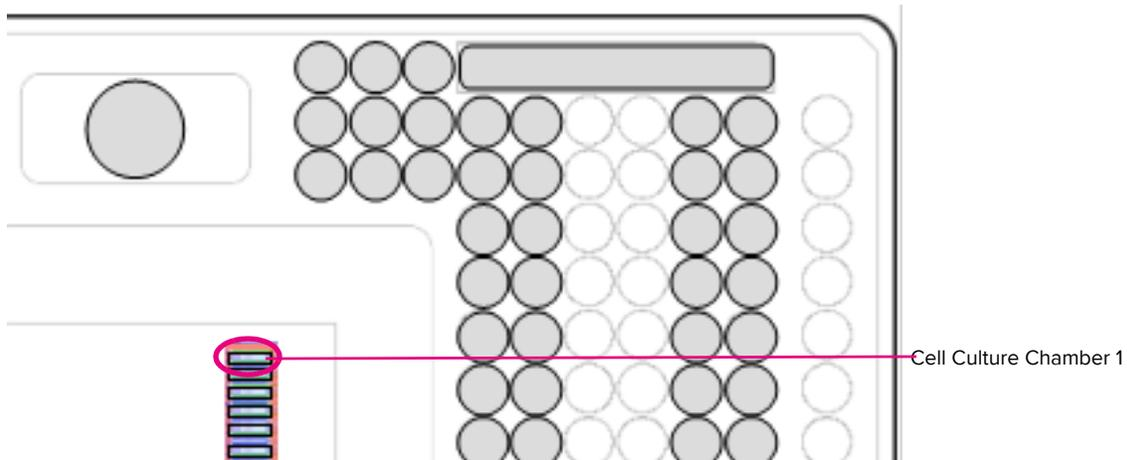

Figure 2. Approximate location of Cell Culture Chamber 1 in the Callisto Adherent Cell Culture IFC
- 1 Move the microscope stage to chamber 1. (See Figure 2 on page 23).